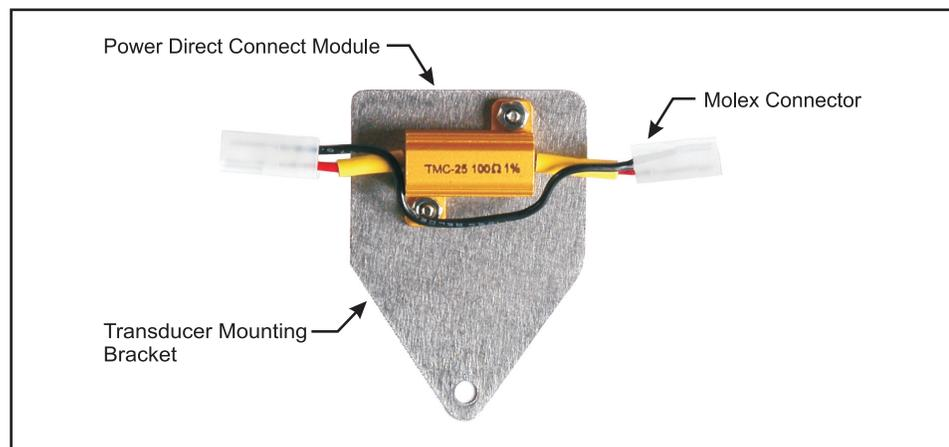

Figure 3: Power Direct Connect Module
In order for a System Studies digital pipe or distribution panel LED display to function, it must be powered by a -48V DC central office battery source and converted down to a lower voltage. Rack assemblies containing multiple digital panels utilize a DC to DC Converter (Part No. 9800-3196), which accommodates 18 dual digital panel meters. Panels sold individually are supplied with a Power Direct Connect - Module (Part No. 9800-3197), which allows for the proper regulation of -48V DC CO power. This module is supplied with a mounting plate and two Molex™ connectors, which simplify its installation on the panel (Figure 3).
- 9) Locate the Power Direct Connect Module that is affixed to the small aluminum mounting bracket (Figure 3). This voltage dropping resistor should be installed in the -48V DC central office battery conductor.